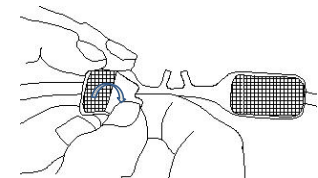

Fig. 7-1
(1) Take out the nasal cannula and tear off the release paper at the sticking position on the face of the nasal cannula, as shown in Fig. 7-1.